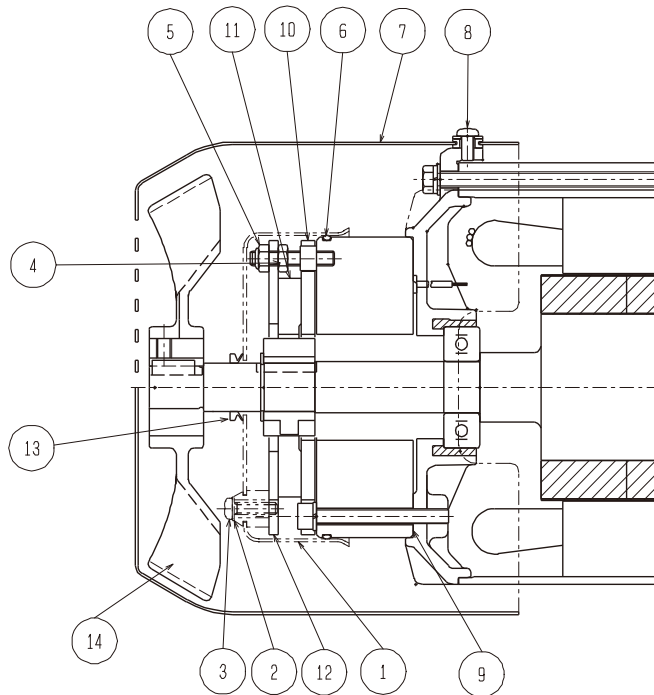

Fig.8
Fig. 8 shows the structure of the brake. The non-excitation braking method (spring-driven braking method) is used for all the models.
2) Gap adjustment procedure (Refer to the structural drawing of the brake. (Fig.8))